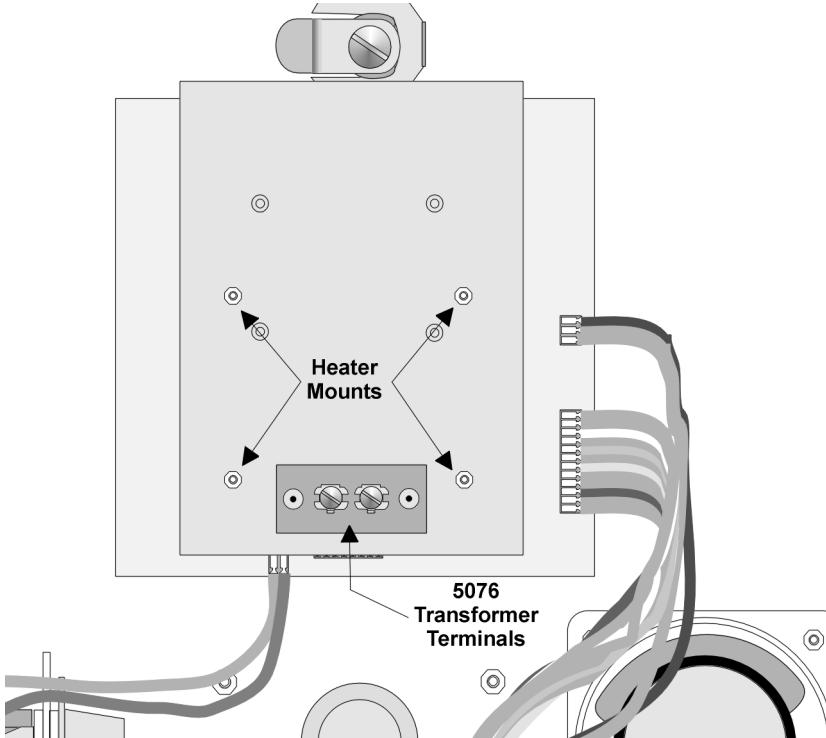

Figure 3-18 View of 5076 Mounted
3. Mount the 5076 on the threaded stand-offs with the #6 nuts and lock-washer provided. (See Figure 3-18.)
4. Connect the 16.5 VAC Class II transformer to the two terminals on the 5076 Heater. (See Figure 3-18.)